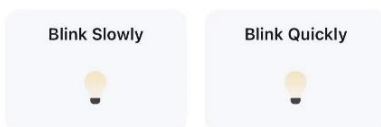
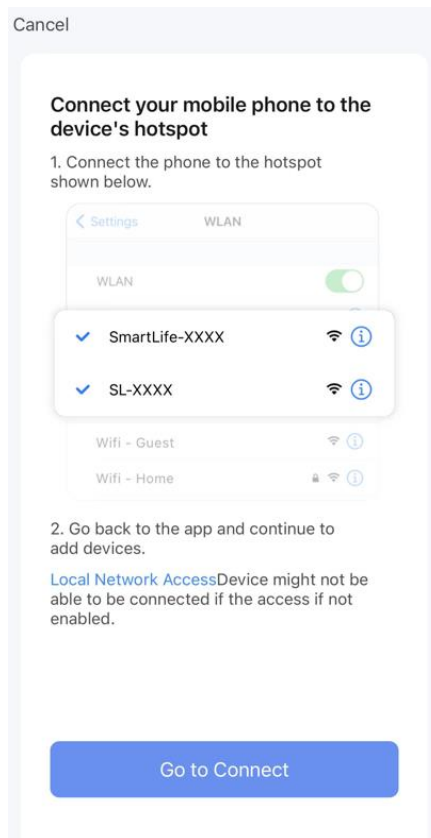

Fig.2
Fig.3
- 2) Tap “Next” on Fig.1. You will get Fig.2 that asks you to check the status of the indicator light. Tap “Blink Quickly”.
- 2) Tap “Next” in Fig.1. You will get Fig.2 that asks you to check the status of the indicator light. Tap “Blink Slowly”. Continue to tap “Go to Connect” in Fig.3 to connect your mobile phone to the device’s hotspot “SmartLife-XXXX”. After the hotspot has been connected, go back to the App.